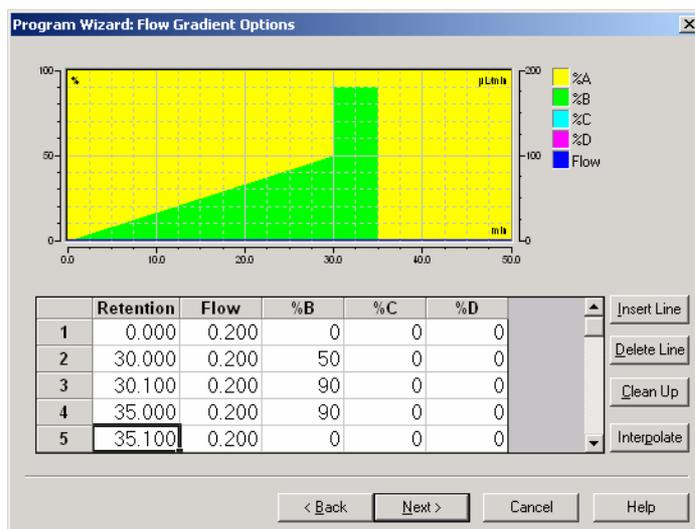

FIGURE 2-30 The Flow Gradient Options Box
- f) Define the gradient in the *Flow Gradient Options* box (FIGURE 2-30).